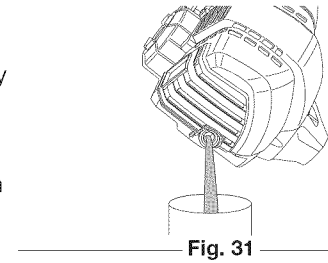

Fig. 31
- Pour the oil out of the oil fill hole and into a container by tipping the unit to the side (Fig. 31). Allow ample time for complete drainage.